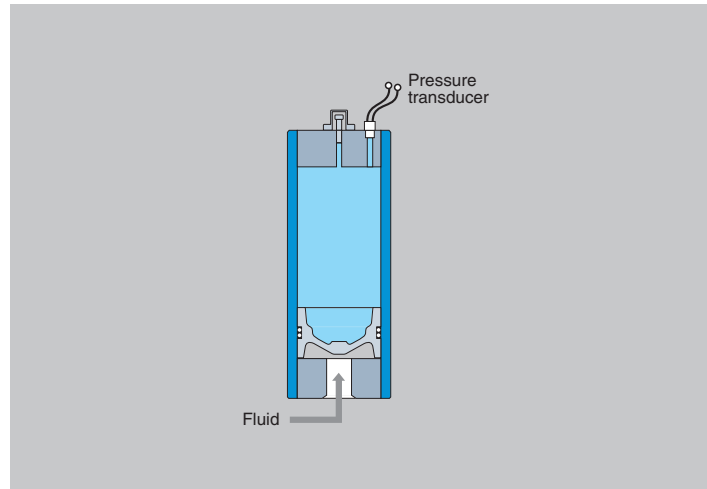

Fig. 14a Pressure transducer measures actual precharge pressure of shut down system
- With the hydraulic system shut down. A pressure transducer or gauge located in the gas end cap (Fig. 14a) indicates the true precharge pressure after the hydraulic system has cooled and the accumulator has emptied of fluid.